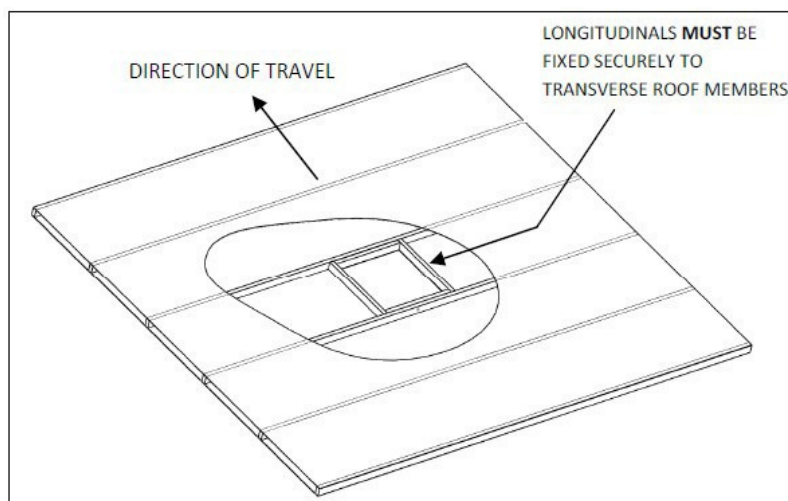
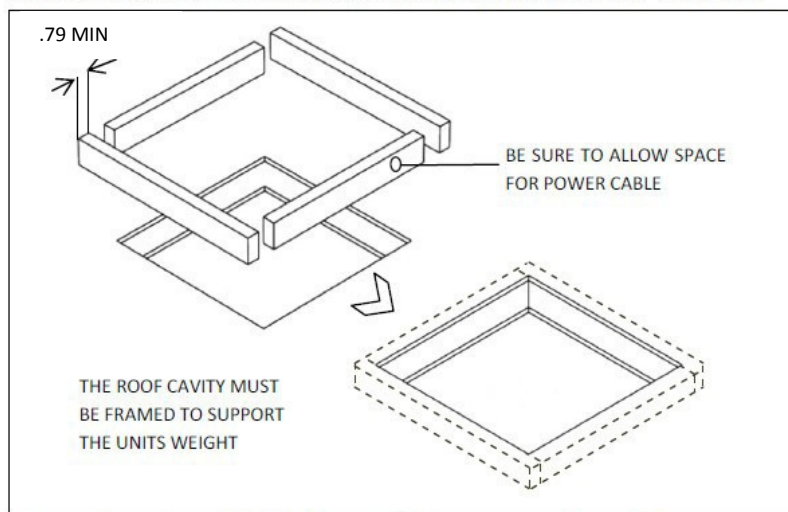

Fig 3: Shows an ideal roof structure with strong longitudinals and a 14' hole boxed
Fig 4: The roof cavity **MUST** be boxed with timber to provide a solid structure
- The square hole in the roof (356 x 356mm, 14" x 14") **MUST** be boxed up with minimum 3/4 inch square timber to provide a structure strong enough to withstand the compression of the installation bolts. This is also to ensure that air is not drawn from the roof cavity (Fig 3 & 4). Remember to leave access for wiring.
- Longitudinals **MUST** be fixed securely to the transverse roof members to transfer load (see Fig 3).
2. Hold the clear strain relief cover with bottom facing upward as shown in Figure 3.
3. Lay wire into locator slots, making sure the black wire is placed into the polarization slot as shown in Figure 3.
4. Press the cable sheath into the integral strain relief slot as shown in Figure 3. Trimming of ground wire and possibly others will be necessary. Wires must not extend beyond the locators as shown in Figure 4!
5. While holding the strain relief cover, position the housing's hinge posts into the hinge slots and press down until both lock into place as shown in Figure 4.